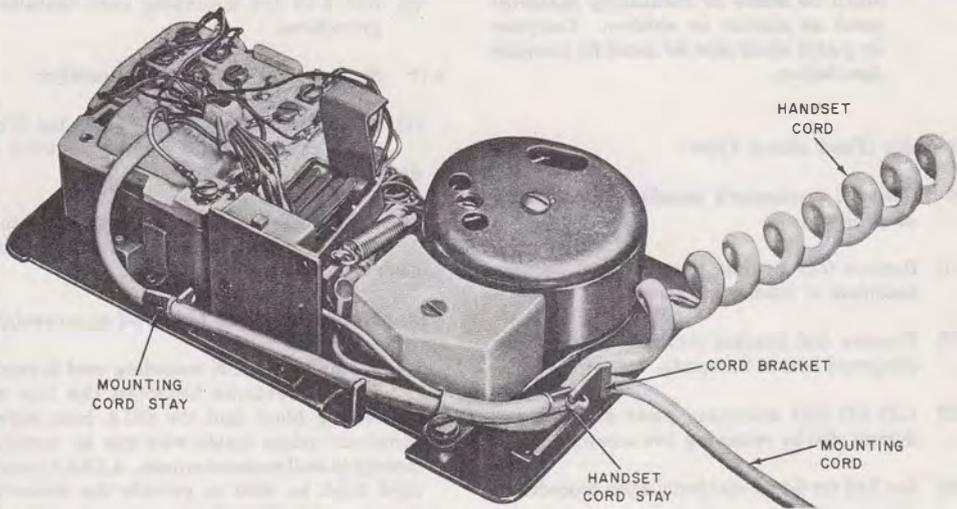

Fig. 5—Installation of Mounting and Handset Cords
- (1) A standard D3BN mounting cord (nonkey system use) is required for the rotary and TOUCH-TONE dial equipped sets.
- (2) Use a D4BJ mounting cord for A lead control when used with 1A1 or 1A2 key telephone system and a D10R mounting cord for 1A1 or 1A2 KTS and 3- or 4-type speakerphone.
- (3) Install set end of appropriate cord to 581A base, secure cord stay, and route cord as shown in Fig. 5.
- (4) Terminate cord as shown in appropriate connection figure.
- (1) Install set end of H4CJ handset cord, lay on top of mounting cord and secure cord stay to base as shown in Fig. 5.
- (1) A standard D3BN mounting cord is required for connections between the line wire, connecting block and the 581A base network terminals unless inside wire can be terminated directly in wall mounted subset. A D6AA mounting cord must be used to provide the connections between the 581A base and customer's desk stand set, except for party line service where a D10R mounting cord is required.
- (2) Install set end of D3BN and D6AA mounting cords to 581A base, secure cord stay and route cord as shown in Fig. 5. D6AA cord can lay on top of D3BN cord.